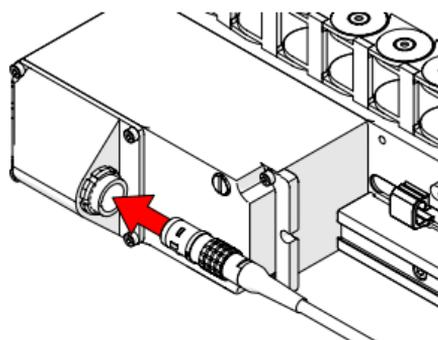

Fig. 33 - Plug raster arm cable into raster connector
1. Plug the supplied raster arm cable into the raster arm's connector (Fig. 33).